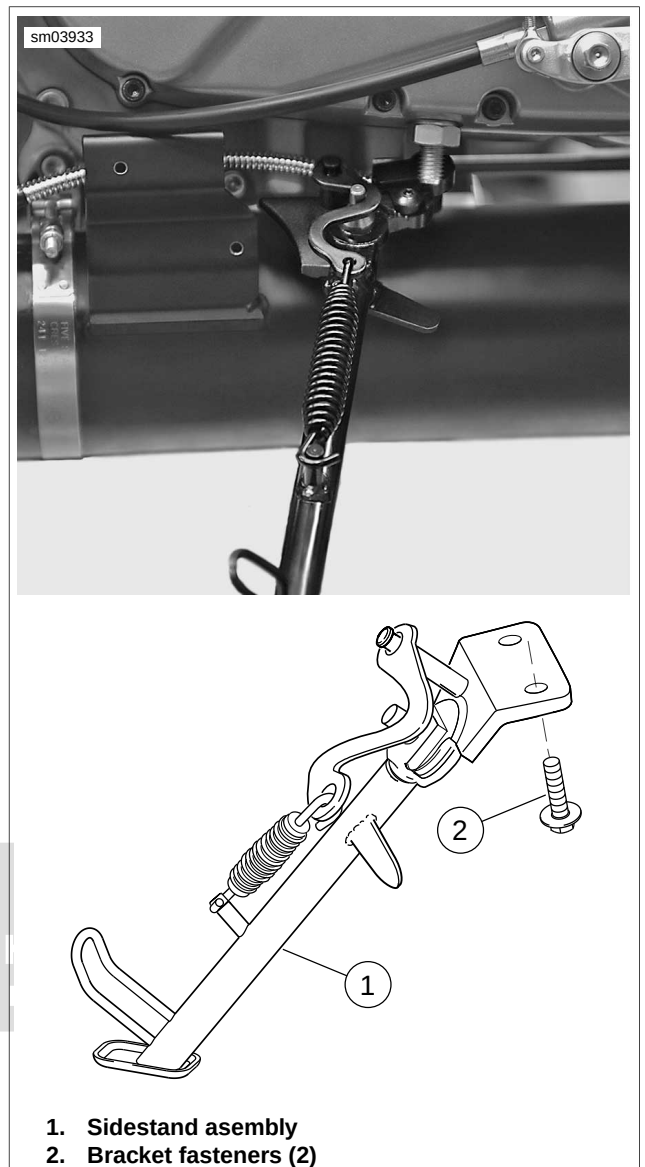

Figure 3-12. Sidestand Assembly (Extended)
32. See Figure 3-12. Remove two fasteners (2) and remove sidestand assembly.